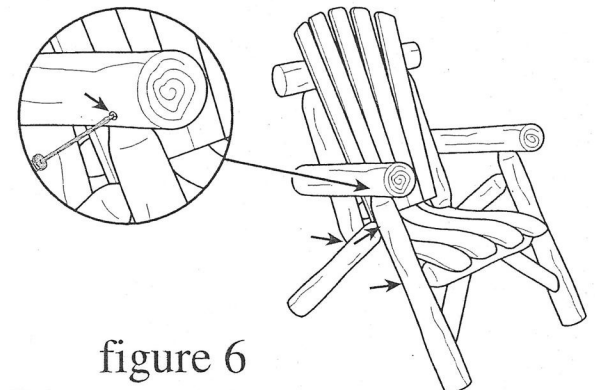

figure 6
STEP 6 Set unit on a level surface and tighten down all lag screws firmly to secure unit. Secure all dowel joints in place with screws perpendicular to the doweled end as shown in figure 6.